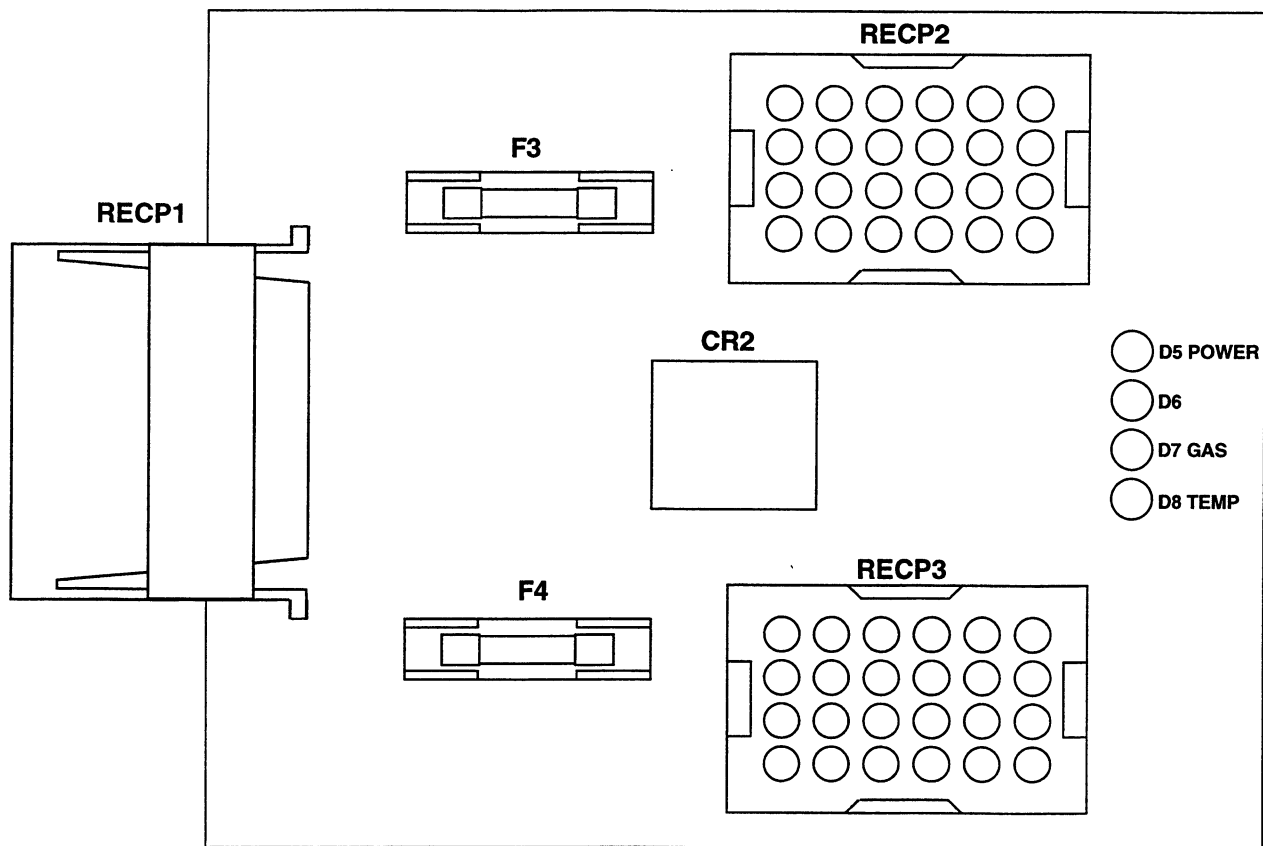

Figure 5-2 Power Distribution Board PCB2
6. Measure voltage at Power Distribution Board PCB2. Refer to Figure 5-2 for detail of PCB2. Look on the board for fuses **F3** and **F4**. Measurements between each fuse and chassis ground should be as follows:
Check that CR2 switches when ON pushbutton is pressed. See Figure 5-2 for location of CR2. If CR2 is defective, replace PCB2.</p> <p>2.2. Terminals to fans are not seated together securely and/or not getting 120VAC from Power Distribution Board.
2.3. PL2 and RECP2 on Power Distribution Board (see Figure 5-2 for location of RECP2) are not seated well.
Remove the left cover to the power supply and observe the four LEDs on the Power Distribution Board. Press and hold PB1 again to observe which LED is not illuminated. The topmost LED that is not illuminated is the first problem that must be corrected. The following is a guide to troubleshooting the cause of extinguished LEDs. See Figure 5-2 for reference.